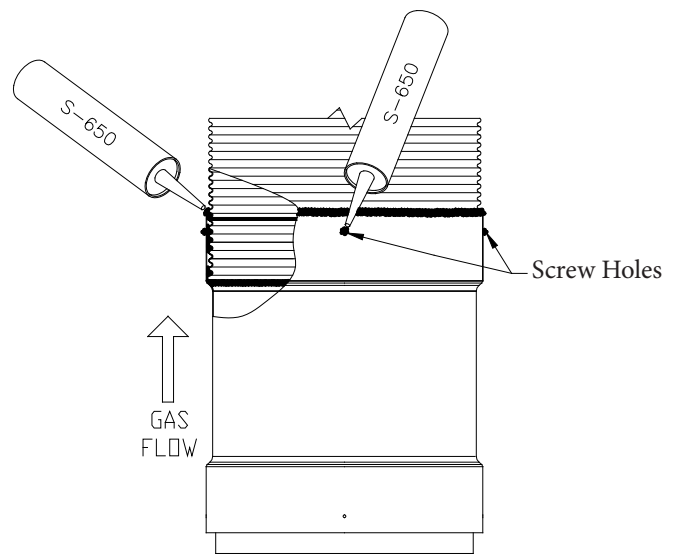

Figure 20- SecureSeal Flex S-650 caulking
2.3. Add a bead of the S-650 red caulking all around the outer junction of the adapter and the flexible liner to make sure everything is well sealed. Also add over the screw holes (Figure 20).